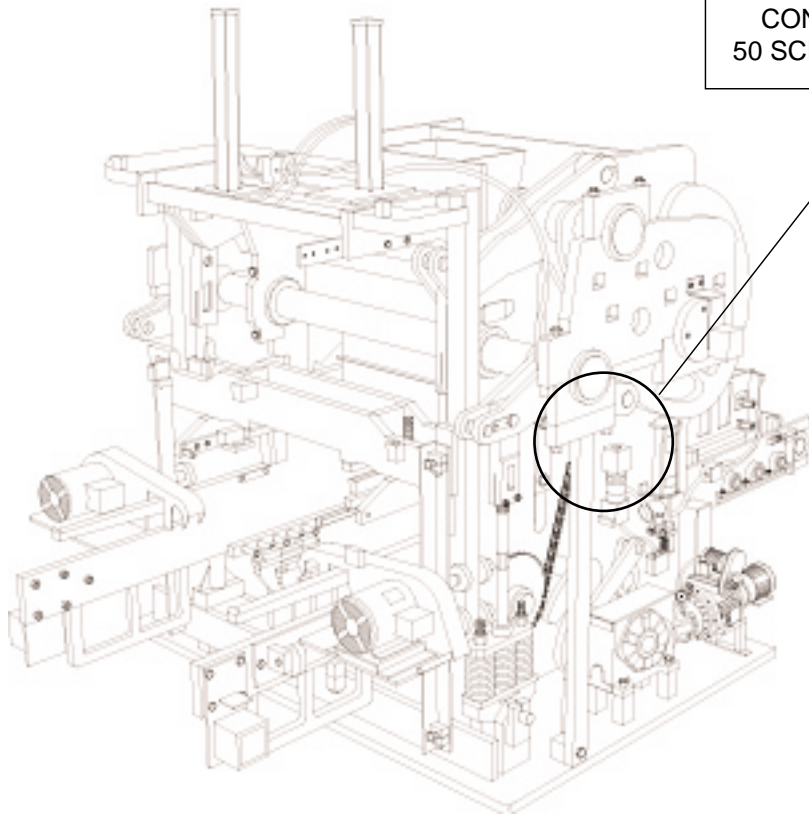

Figure 1.11 AIR SUPPLY CONNECTIONS.
8. Make air connections. (Refer to figure 1.11 on page 18)